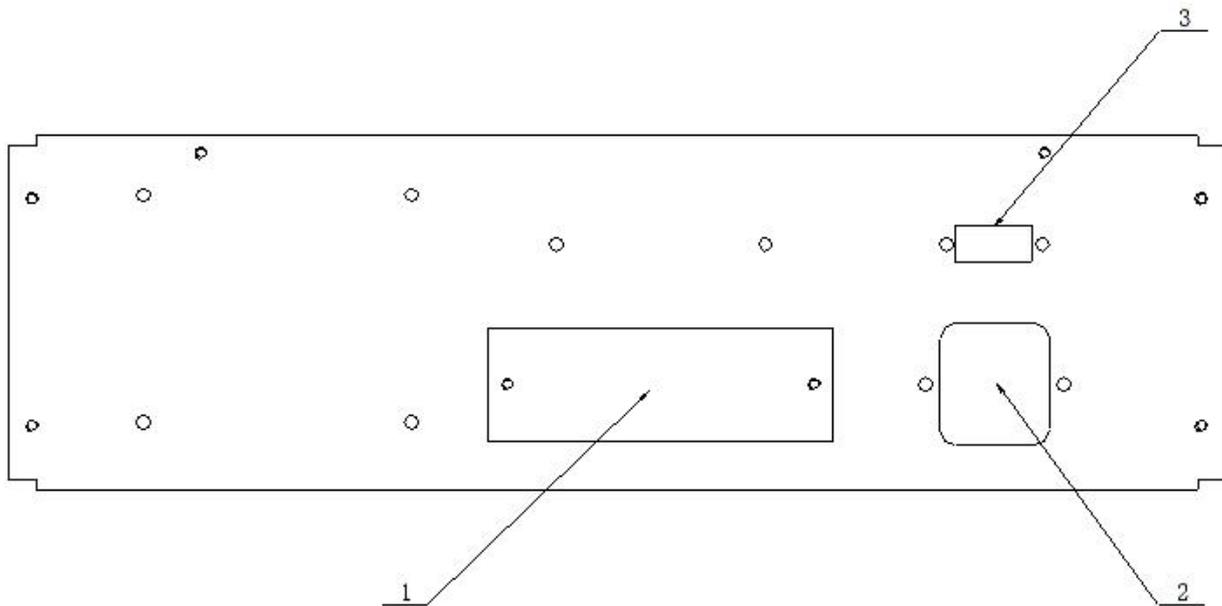

Figure 2-2 Schematic diagram of the rear panel of JK7200A
2. Rear panel description: The outline diagram of the rear panel is shown in Figure 2-2